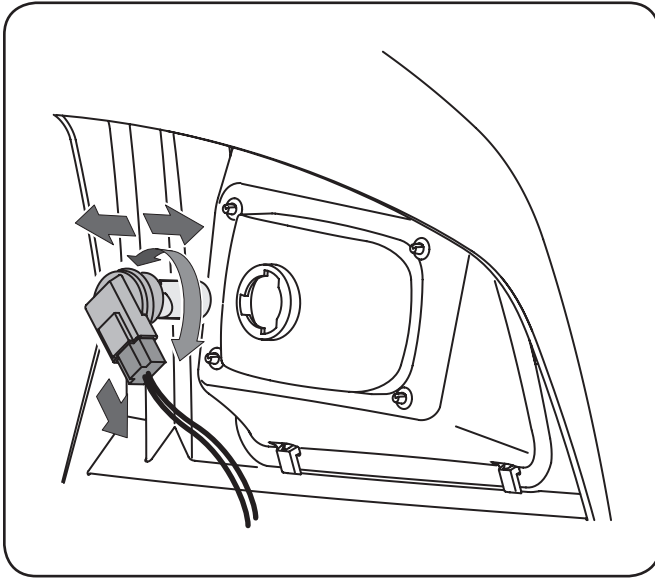

Figure 6-16
2. Turn the bulb/socket assembly approximately a quarter turn counterclockwise to align its tabs with the notches of the reflector, then remove from the reflector. See Figure 6-16.